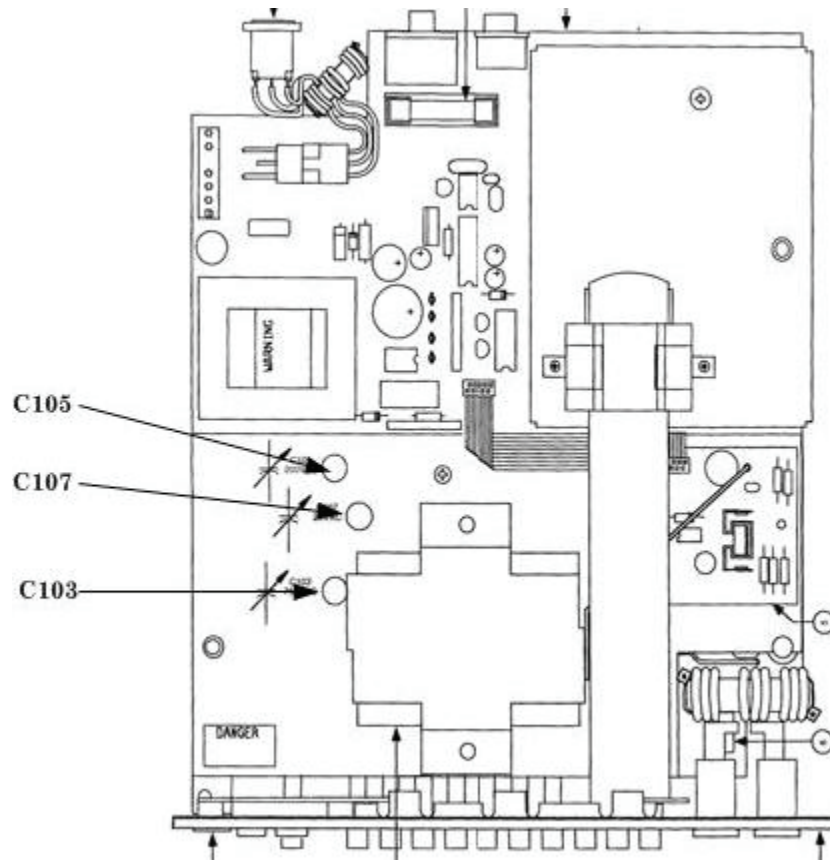

Figure 1. Adjustment locations.
- (25) Press TI **1000** range pushbutton (in position).
- (26) Connect calibrator **OUTPUT HI** to TI **INPUT HI** and calibrator **OUTPUT LO** to TI **INPUT LO**.
- (27) Set calibrator for an output of 500.00 V at a frequency of 500 Hz.
- (28) Press TI **REL** pushbutton and ensure TI **REL** annunciator is displayed.
- (29) Change calibrator output to 500.00 V at a frequency of 20 k Hz.
- (30) Adjust C103 (fig. 1) for a display of 0000.00 ± 150 counts (R).
- (31) Set calibrator output to minimum.
- (32) Press TI **REL** pushbutton and ensure TI **REL** annunciator is off.
- (33) Press TI **200** range pushbutton (in position).
- (34) Set calibrator for an output of 100.00 V at a frequency of 500 Hz.
- (35) Press TI **REL** pushbutton and ensure TI **REL** annunciator is displayed.
- (36) Change calibrator output to 100.00 V at a frequency of 20 k Hz.
- (37) Adjust C105 (fig. 1) for a display of 000.000 ± 200 counts (R).
- (38) Set calibrator output to minimum.
- (39) Press TI **REL** pushbutton and ensure TI **REL** annunciator is off.
- (40) Press TI **20** range pushbutton (in position).
- (41) Set calibrator for an output of 10.00 V at a frequency of 500 Hz.
- (42) Press TI **REL** pushbutton and ensure TI **REL** annunciator is displayed.
- (43) Change calibrator output to 10.00 V at a frequency of 20 k Hz.
- (44) Adjust C107 (fig. 1) for a display of 00.0000 ± 200 counts (R).
- (45) Set calibrator output to minimum and disconnect equipment setup.
- (46) Press TI **REL** pushbutton and ensure TI **REL** annunciator is off.